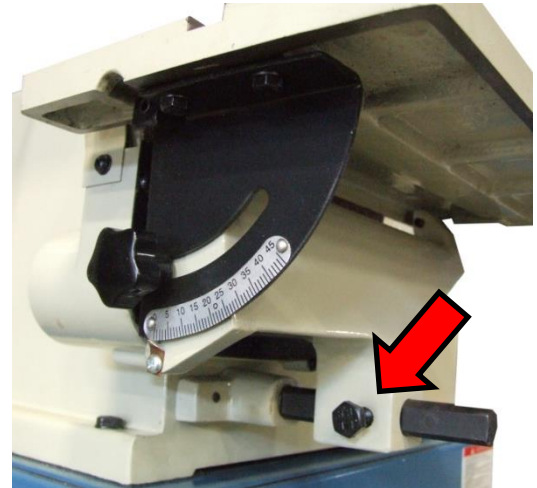

figure 16
3. To set the distance, loosen the bolt as indicated by the arrow in (fig. 16).